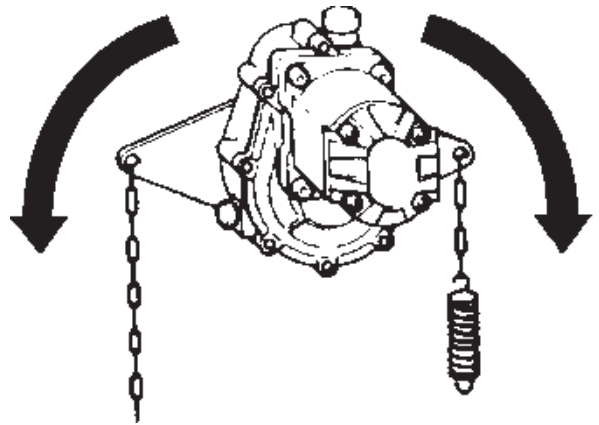

Fig.6 Connection of the power take-off to contrast rotation.
- Fasten the two flanges of the gearbox to the two points of the tractor using appropriately sized chains (fig. 6) making sure they are firmly fastened. During use of the log splitter, a very high turning force is applied at this point (more than 200 Kg) Incorrect fastening could cause serious injury and damage.